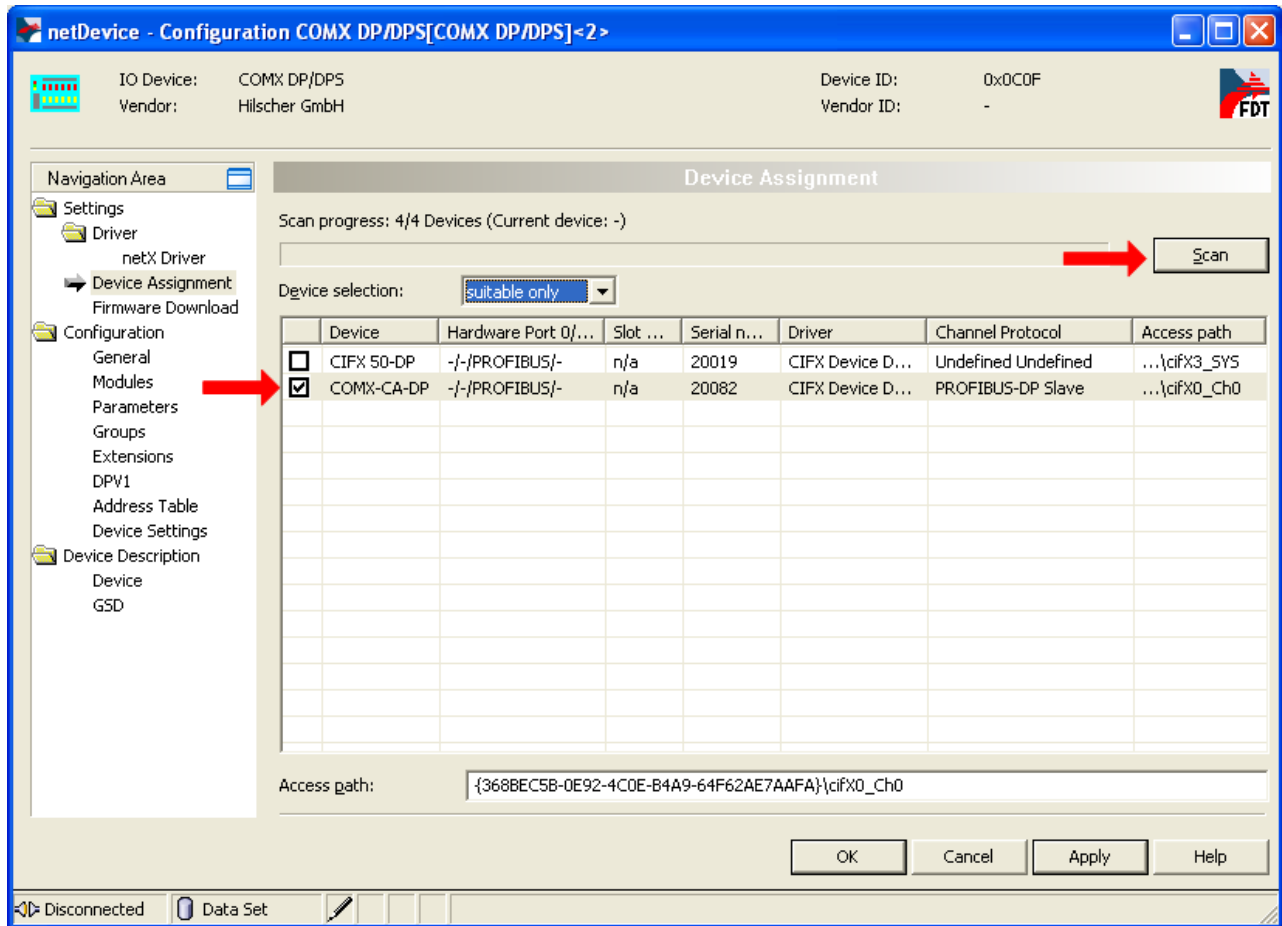

Figure 52: Starting the Search Process for Devices and Selection of Device
- In order to start the search process for suitable devices, click at the button „*Search*“ (see *Figure 52: Starting the Search Process for Devices and Selection of Device* on page 161, at the red arrow right on top).
- For the selection of the device check the checkbox of the comX communication module whose firmware is to be updated (also see *Figure 52: Starting the Search Process for Devices and Selection of Device* on page 161, at the red arrow in the center part of the figure).